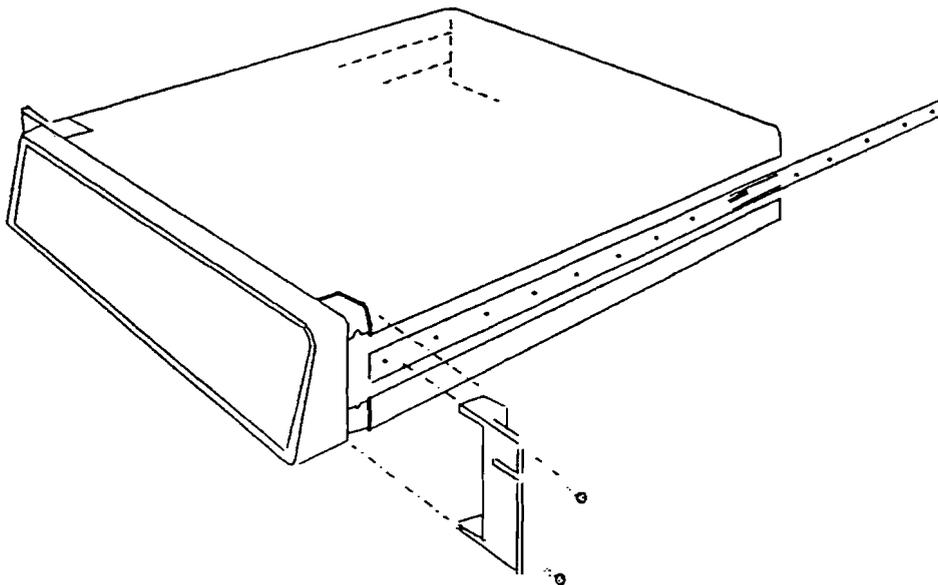

Fig. 2.2 Fitting mounting brackets and telescopic slide inner members
4.3.2 Fit the following items to the unit, as shown in Fig. 2.2: